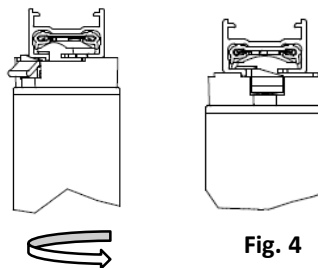

Fig. 3
2. Rotate ADAPTER 90° clockwise with the help of the DRIVER HOUSING until the LOCKING LEVER snaps and locks in place (Fig. 3).